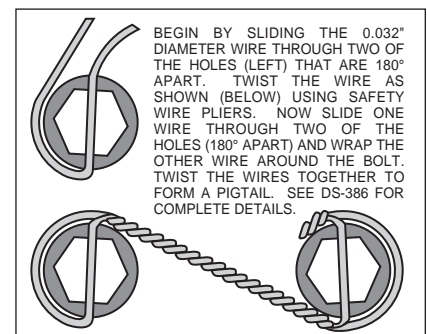

Figure 6. Safety Wire Diagram
- With the larger I.D. side of the rotor (4) facing away from the hat (3), bolt rotor (4) to hat (3) through the backside of the rotor using washers (5) and bolts (6). Torque bolts (6) in an alternating sequence to 103 in-lb. Safety wire bolts (6) using standard 0.032 inch diameter stainless steel safety wire as shown in Figure 6. Please refer to Wilwood's data sheet DS-386 (available at www.wilwood.com/Pdf/DataSheets/ds386.pdf) for complete safety wire installation instructions.